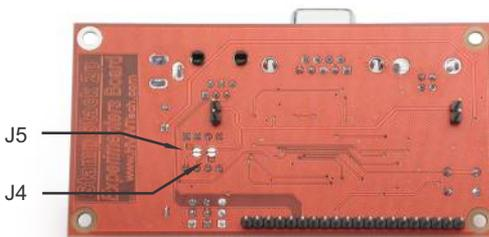

Figure 3 - EEPROM solder jumpers
*EEPROMs larger than 512 Kbits require that J5 (found directly under the EEPROM Socket on the bottom side of the PCB, see Figure 3) be shorted with some solder. This modification allows large EEPROMS to be addressed correctly. 1 Megabit = 1024 Bits = 128 KBytes
NOTE: To render an EEPROM in the expansion socket (U7) Read Only, short J4 solder jumper (located on the back side of the PCB directly under the Expansion Socket, see Figure 3). This connects the EEPROMs' WP pin to Vdd. This will prevent the Interpreter from writing to the EEPROM.